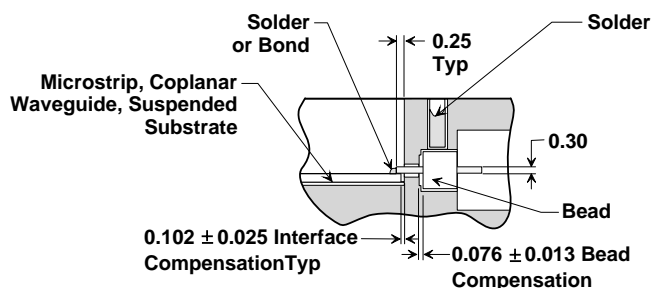

Figure 3. Glass Bead Installation
- Install microstrip into housing. Refer to Figure 3 for dimensional tolerances around glass bead.